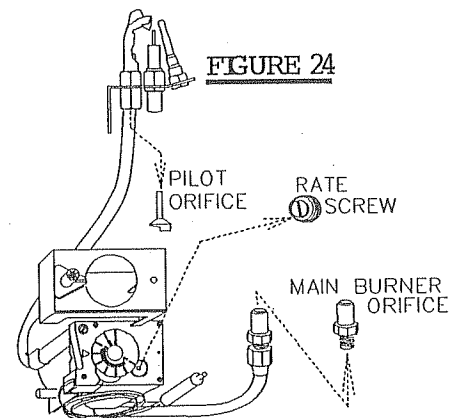

FIGURE 24
3. Remove and replace the pilot orifice with correct orifice for the type of fuel being converted to: **#23 for propane, #37 for natural gas.** FIGURE 24.